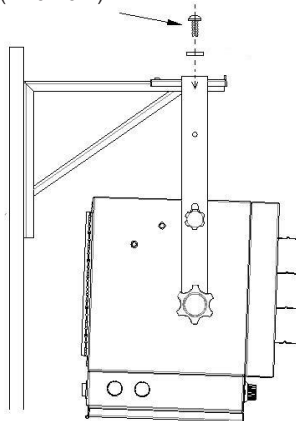

Figure 9D
4. Place the heater (with its bracket) on the support plate. The heater can be tilted at 3 different angles. Use two screws to secure the unit in the desired angle. (Figure 9D)